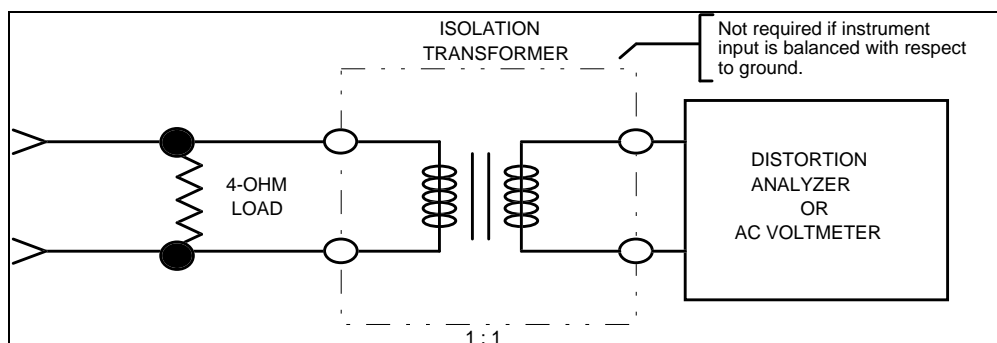

Figure 4 - Audio Isolation Transformer
- ** See Figure 4. This is not needed if instrument input is unbalanced with respect to ground.
Connect a 4-ohm, 25-watt resistor in place of the speaker. Connect the isolation transformer input across the resistor. Connect the isolation transformer output to the Distortion Analyzer (see Figure 4).